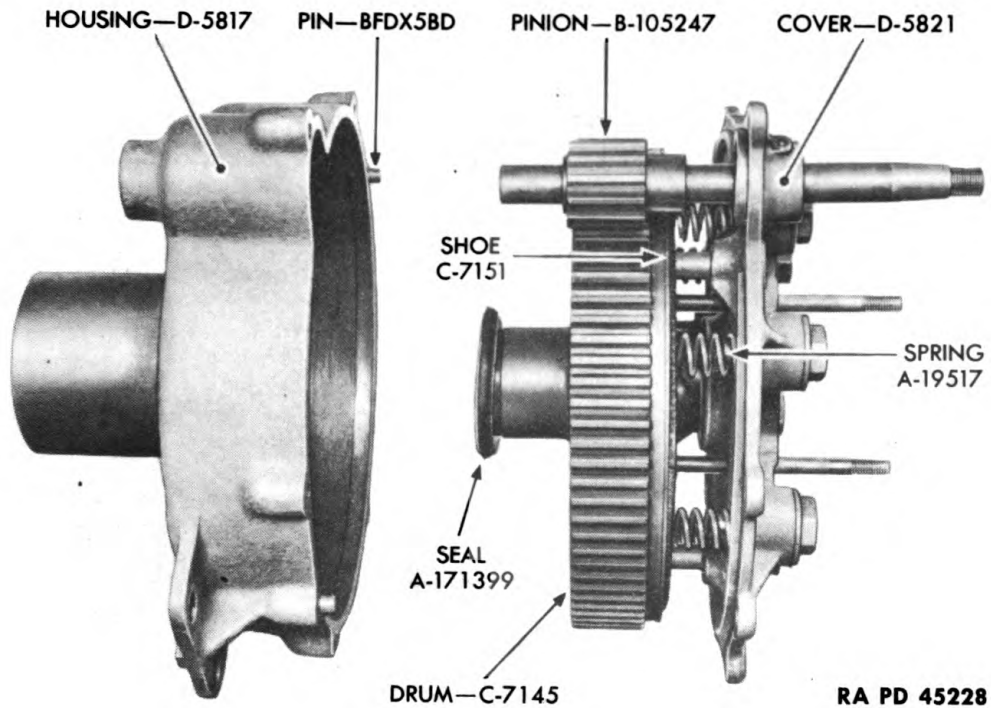

Figure 177—Elevating Brake Drum and Handwheel Gear Housing Group
(8) After shaft has been driven out, pull cover D5821, drum C7145, pinion B105247, shoe C7151, seal A171399, and springs A19517 (as a unit) from housing D5817 (fig. 177).